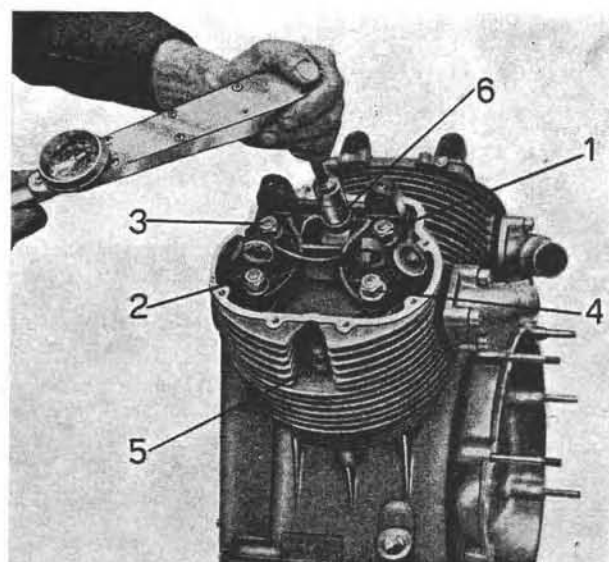

Fig. 25
- screw down nuts on long and short bolts, in crossed sequence, without tightening. Using a torque wrench rated at Kg/m. 3.800 (27.48 ft.lb) gradually tighten long and short bolt nuts accordingly to sequence shown in Fig. 25 (1-2-3-4-5-6).